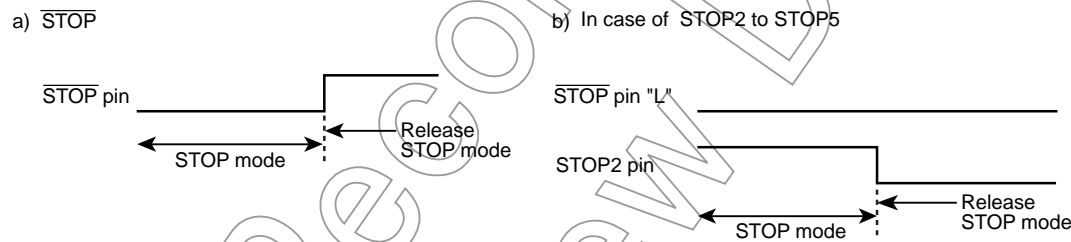

Figure 13-3 Priority of  $\overline{\text{STOP}}$  pin and STOP2 to STOP5 pins
- Note 6: When the STOP mode is released by STOP2 to STOP5 pins, the level of  $\overline{\text{STOP}}$  pin should hold "L" level (Figure 13-3).